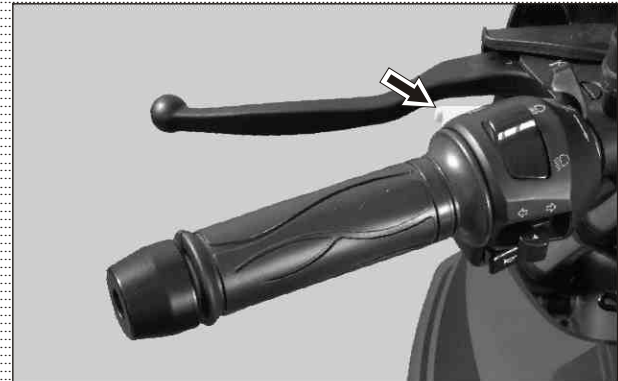

Fig. 5.19
- The head lamp and high beam, pass by relay are connected through pass by switch provided on the switch assembly. (Fig. 5.19)